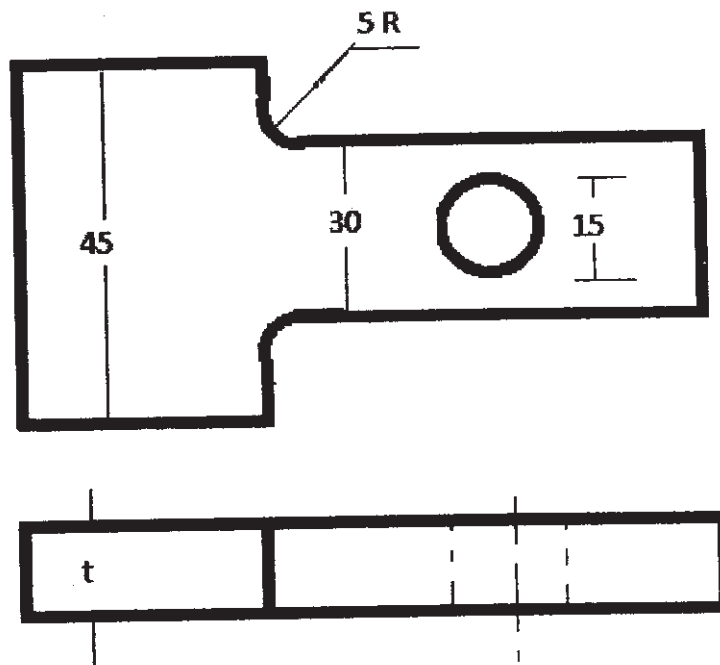

Figure 1
- Q2)** a) A bracket shown in Fig 1 is subjected to pull of 5 kN acting at an angle of 45° to vertical. The bracket has a rectangular section whose depth is two times its thickness. If the permissible tensile stress is 55 N/mm^2 . Determine the cross - section of the bracket. [8]